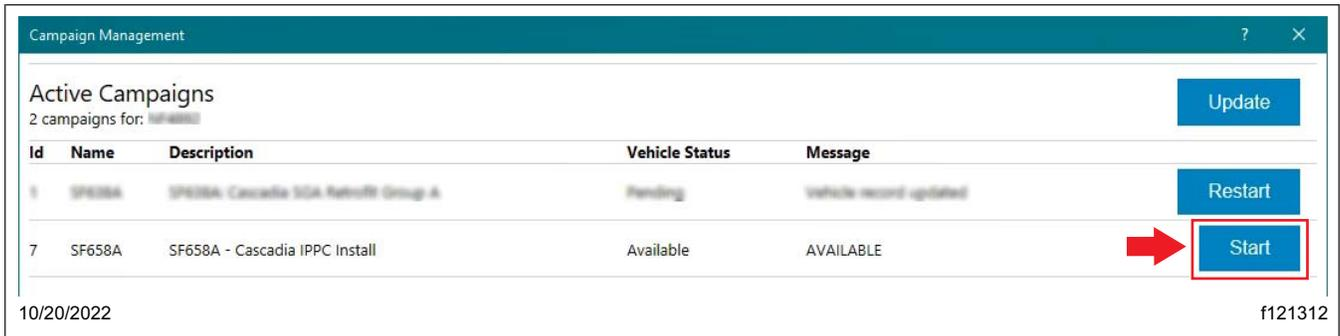

Fig. 10, Selecting Start
18.3 Verify the particulars under the 'Name' and 'Description' columns are displayed correctly. Then select 'Start.' See Fig. 10.